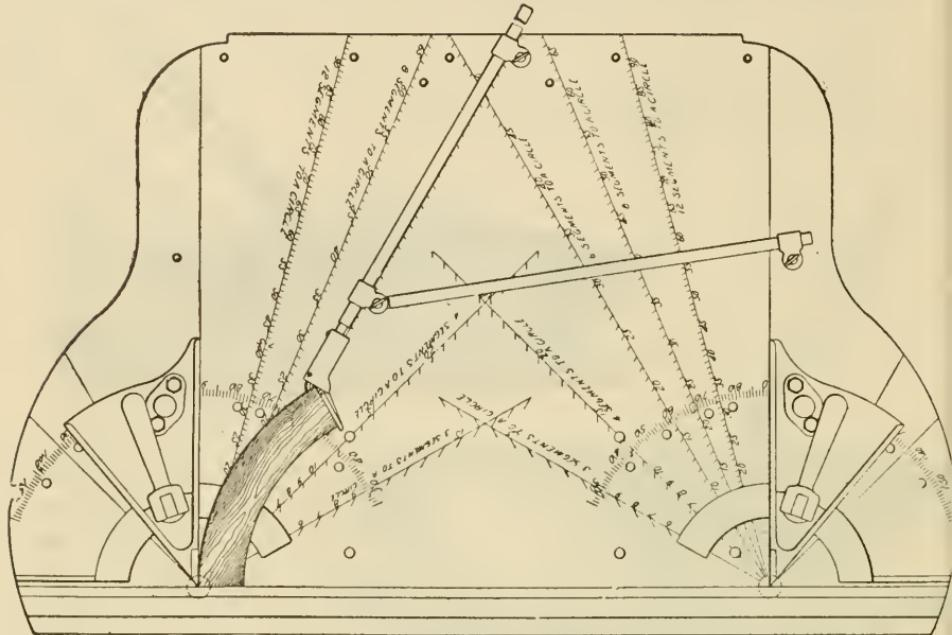

Fig. 63 TRIMMING SEGMENTS
65. Mechanical Aids--Fig. 63 shows the ingenious method in which the beds of some of the larger styles of trimmers are etched. The eccentric clamping lever makes it possible to locate the swing gauges at any desired angle. The prominent angles, of course, are located by means of the taper spring stop pins and taper holes in the bed.